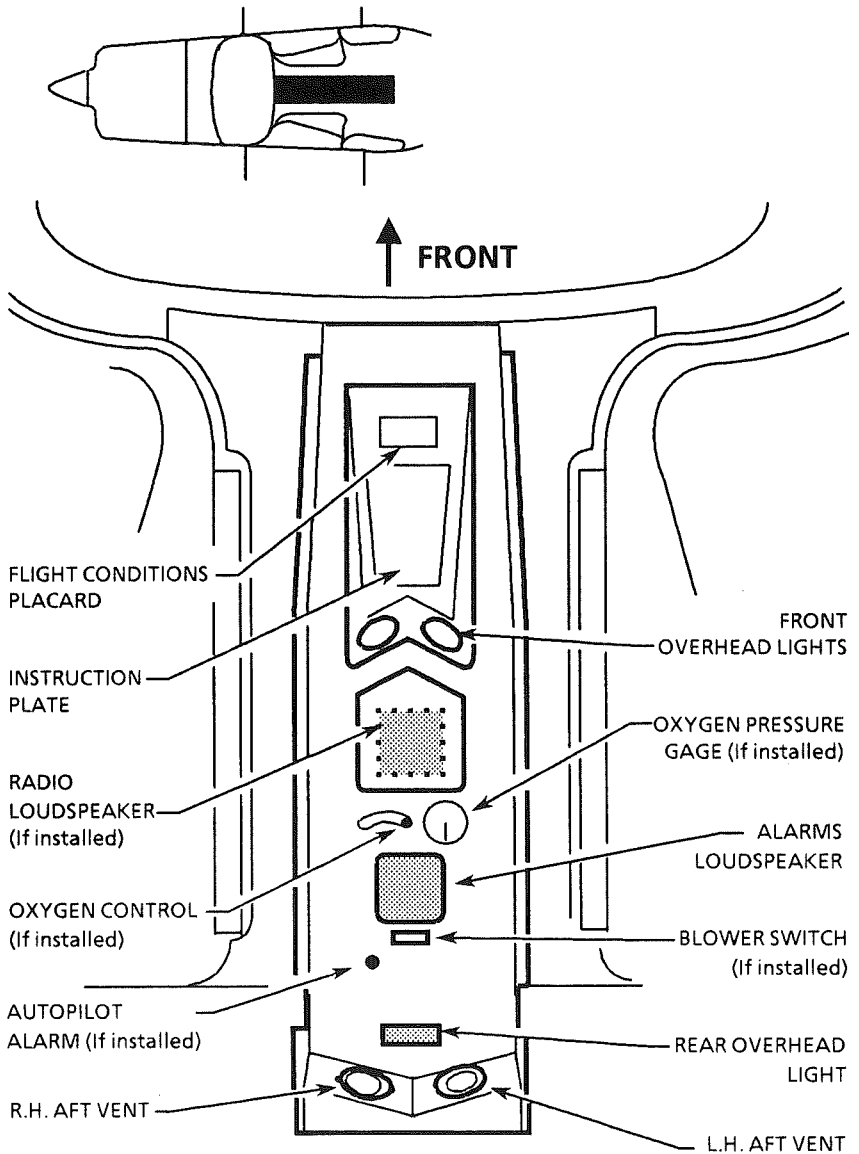

Figure 7.4 - EXAMPLE OF UPPER DUCT CENTRAL PART
**Upper duct central part (see Figure 7.4) contains fore to aft :**